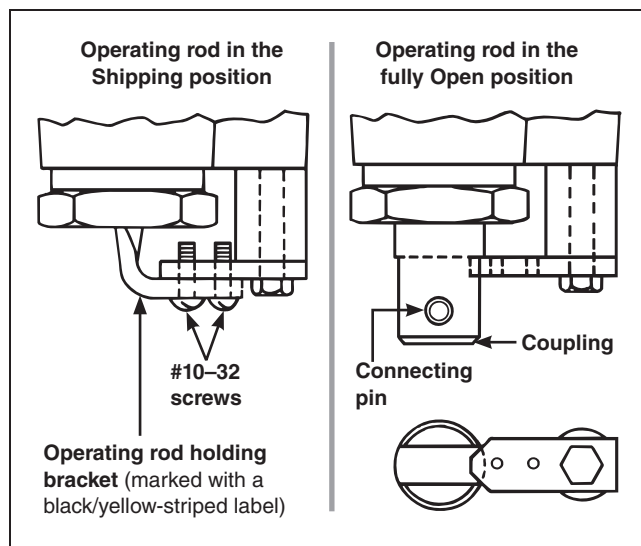

Figure 14. Preparing the interrupter for attachment to the insulating support column.
- (a) Remove and discard the two #10–32 screws that connect the operating-rod holding bracket (marked with a black/yellow-striped label) for shipment. See Figure 14.
- (b) Pull the holding bracket to move the operating rod to its fully **Open** position. See Figure 14.
- (c) Remove the connecting pin used to attach the holding bracket to the coupling. Retain the connecting pin for re-use in Step 4(h) on page 20). Discard the holding bracket. See Figure 14.